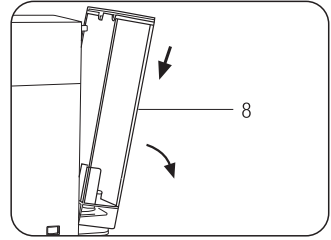

Fig.1
- To extract the tank (8), press it down and turn it outwards at the same time (**Fig.1**)